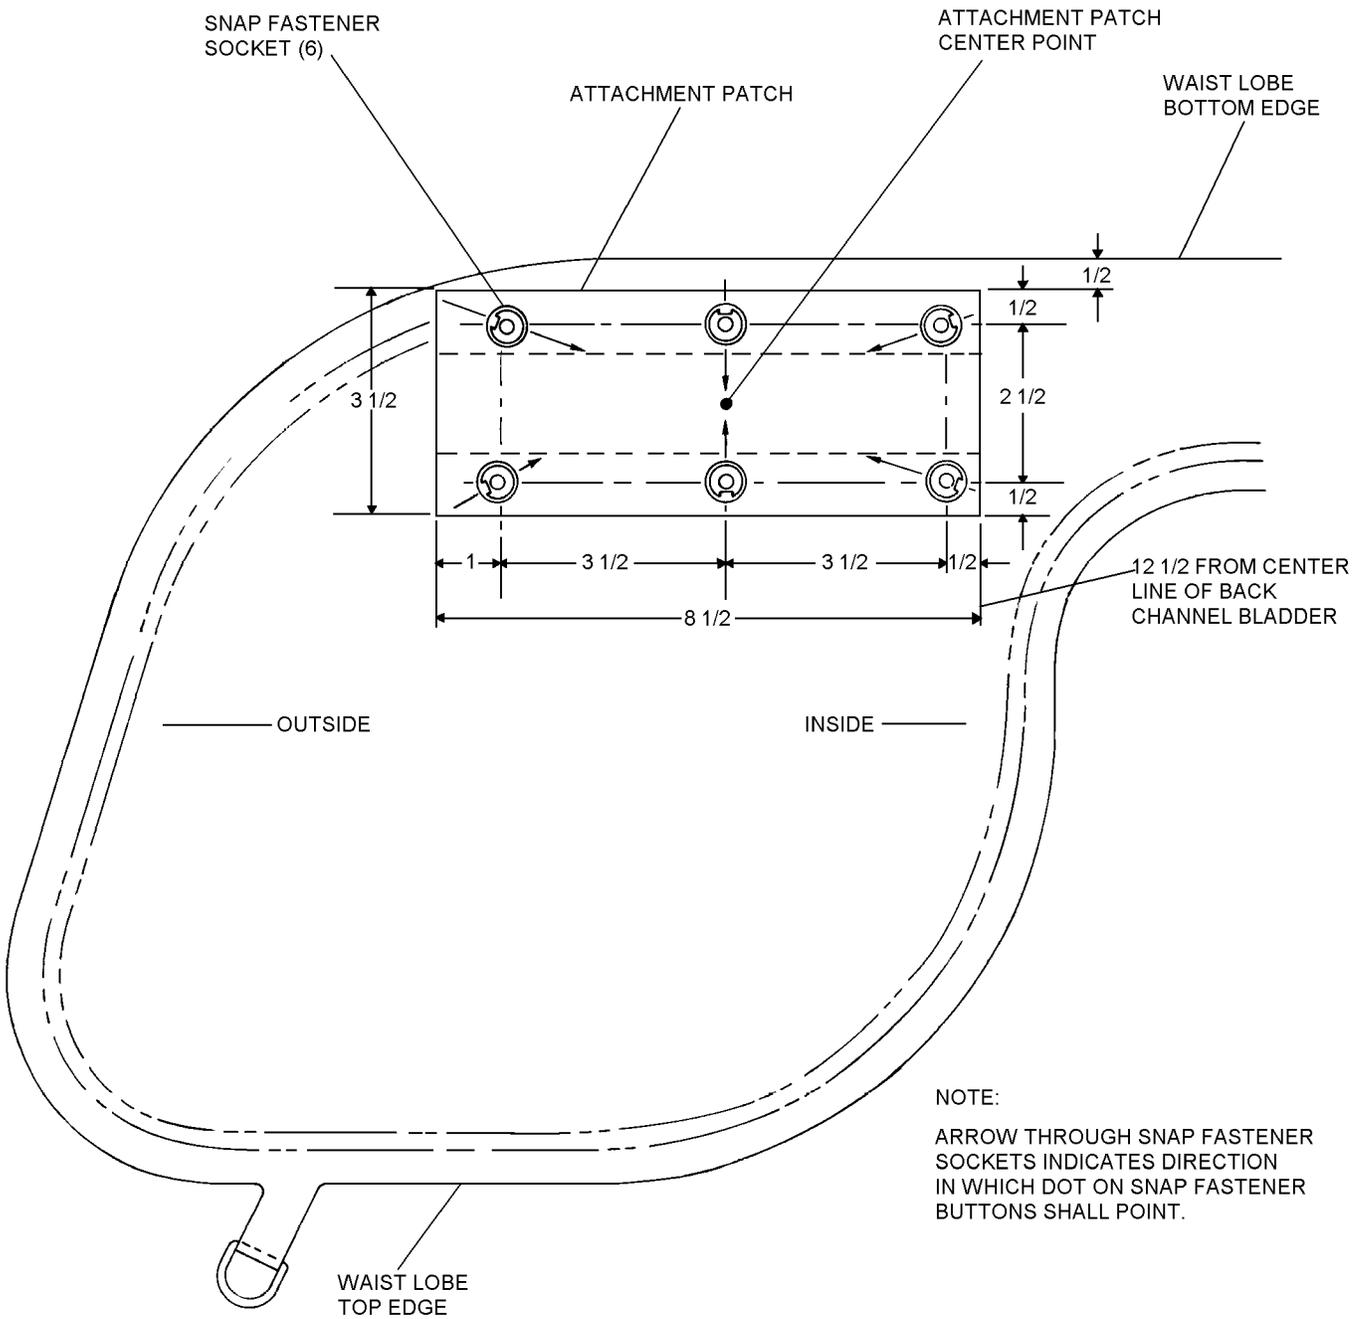

Figure 26-13. Bladder Attachment Installation Dimensions
The following procedures pertain to the fabrication and installation of the left waist lobe attachment patch. These instructions are typical and apply to both left and right waist lobe installations (See Figure 26-13).
6. Measure and punch six holes in attachment patch for installation of six uni-directional snap fastener sockets (figure 26-13).
7. Install six uni-directional snap fastener sockets with dots on caps oriented to center point of attachment patch (figure 26-13).
8. Position attachment patch on bladder waist lobe as indicated in figure 26-13 and mark the area on waist lobe. Apply polychloroprene adhesive in accordance with paragraph 26-62 and attach the patch to bladder waist lobe.